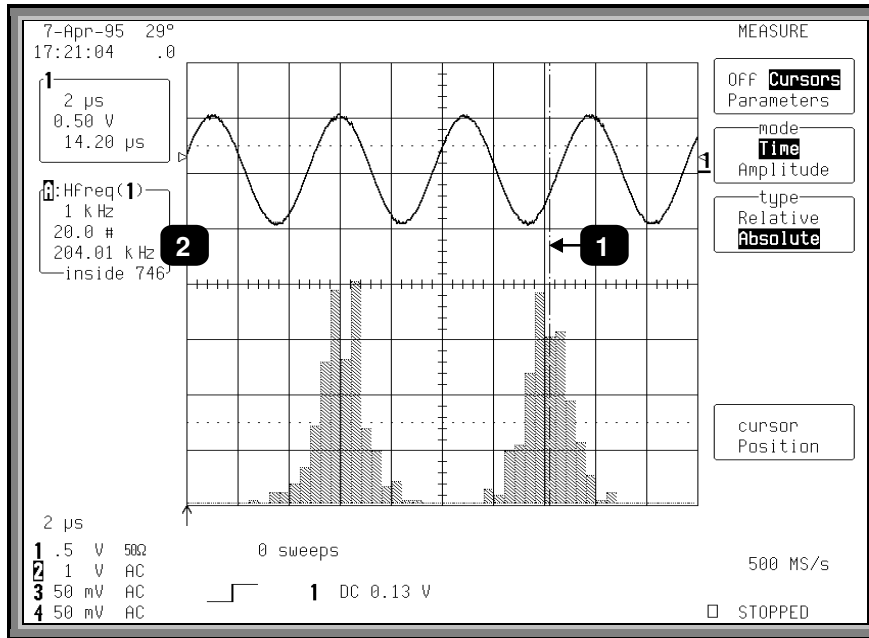

Figure 1.4
Figure 1.4, below, shows the use of the measurement cursor (Item ❶), to determine the frequency represented by one bin of the distribution. The value of the bin, inside the Displayed Trace Field is indicated by ❷.